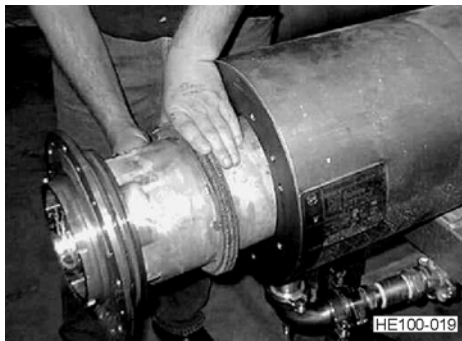

Figure 40 - Tube Removal
8. Pull the tube out of the jacket. Take care to avoid marring the jacket cylinder during heat transfer tube removal. Mark the tube and jacket so that the tube can be reinstalled in the same jacket. See Figure 40. On liquid units, install a new packing ring.